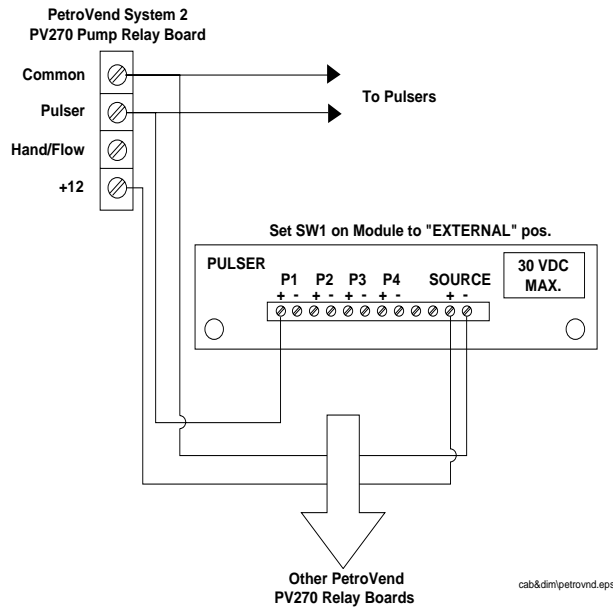

Figure 7. Installation with PetroVend System 2 Site Controller
1. Locate the PetroVend System2 PV270 Pump Relay Board. See Figure 7 on page 14.
3. Refer to Figure 7 on page 14. Connect **SOURCE (+)** on LVDIM to **+12** screw terminal on the PV270 relay board in the PetroVend Controller.
5. Connect **P1 (+)** to pulser on PV270 relay board. Any other pulser connections should be installed to the PV270 relay boards as described in Figure 7 on page 14.